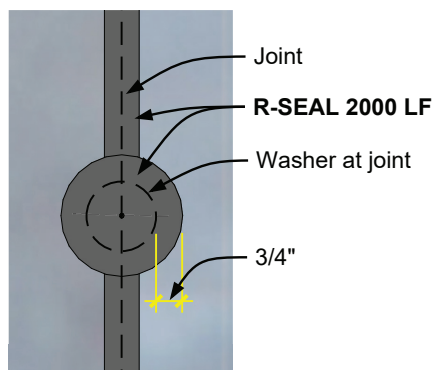

Figure 8
K. Joint Fasteners: Where insulation board fasteners fall at a joint, apply and tool R-SEAL 2000 LF continuously over the entire washer and a minimum of 3/4" radially beyond the washer. **Reference Figure 8.**
L. Field Fasteners: When NOT using Trufast Walls Thermal-Grip®ci Prong Washers and Grip-Deck® Self-Drilling Screws, apply and tool R-SEAL 2000 LF continuously over the entire fastener/washer and a minimum of 3/4" radially beyond the field washers, similar to **Figure 8**.